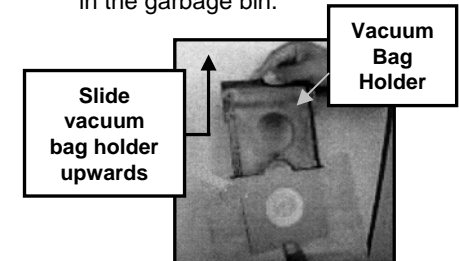

Fig. 9
5. Remove the vacuum bag from the vacuum bag holder. (Fig. 9) The vacuum bag should slide out easily from the vacuum bag holder. Put the dirt and dust filled vacuum bag in the garbage bin.